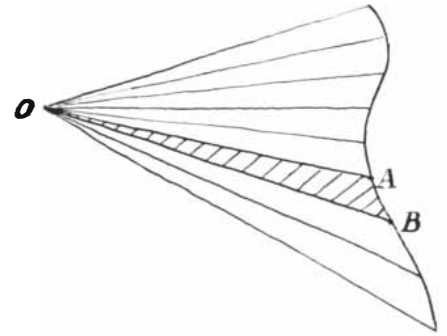
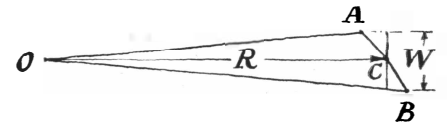

Figure 3
Figure 4
"Another process for finding areas is to divide the unknown area into a large number of triangles, find the area of each triangle, and add up the areas. We split the area by drawing rays, each of which has the same angular relationship to the others [Figure 3]. Now look at a typical element of this area [Figure 4]. Let C be the center of AB , and R be the distance from O to C . Imagine that we swing an arc of radius R (OC) between the lines OA and OB . If the angle AOB is very small, this arc will appear to be practically a straight line of length W . The area of the triangle is then one-half $R \times W$.